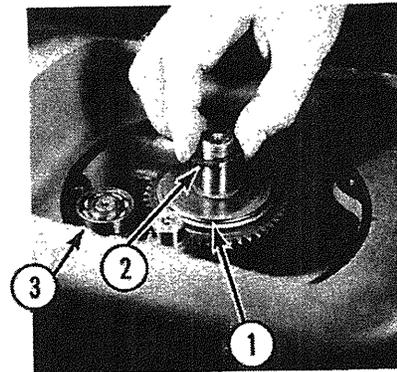

Fig. 3-33
- Q. Install upper planetary spacer with hub side up (1, Fig. 3-33).
- R. Put on the shim washer or washers exactly as they were removed during disassembly (2, Fig. 3-33). If shim washers
- U. Install the upper ball bearing on top of the transmission shaft (3, Fig. 3-33).